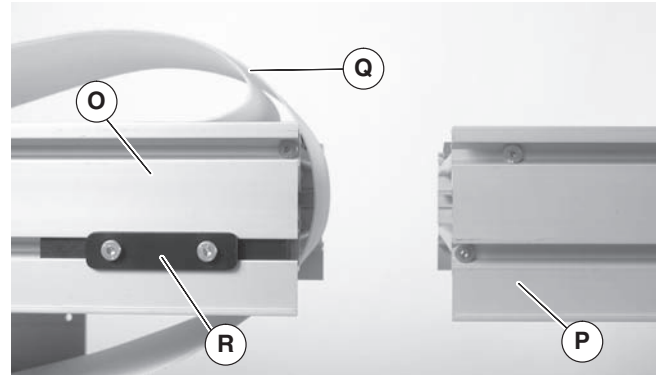

Figure 4
1. Locate conveyor sections (Figure 4, item O)